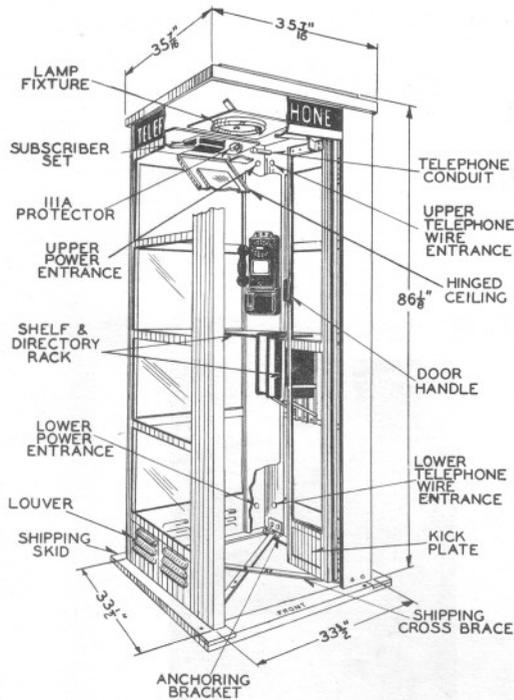

Fig. 2 - KS-14611, List 2 Booth
2.12 The list 2 booth is equipped with a flush-type ceiling which houses the light fixture, the protector, and the subscriber set (see Fig. 2).